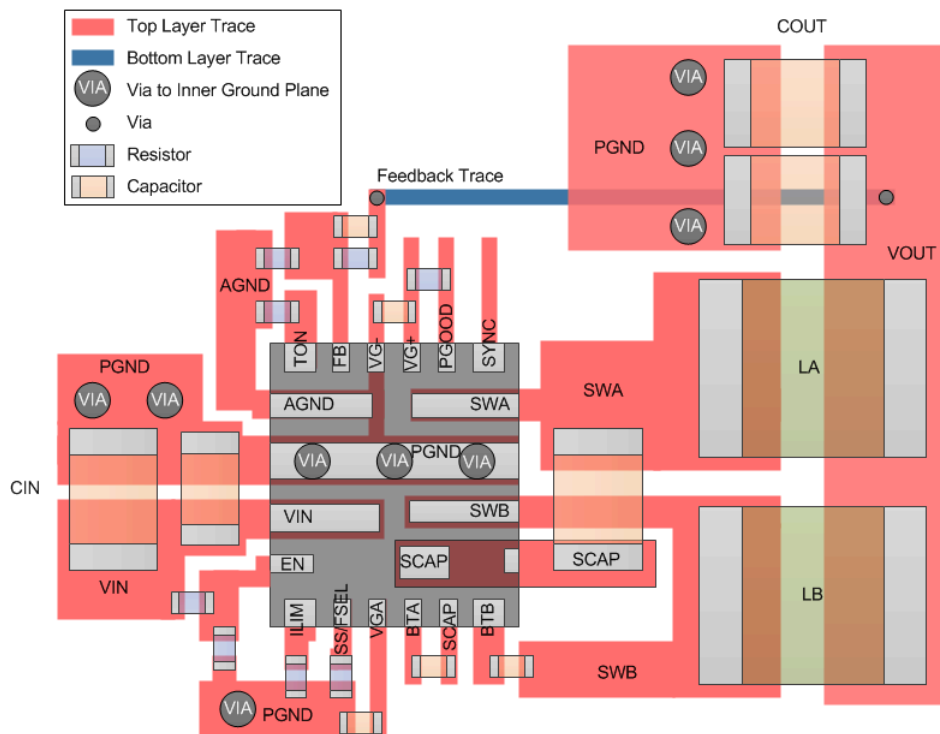
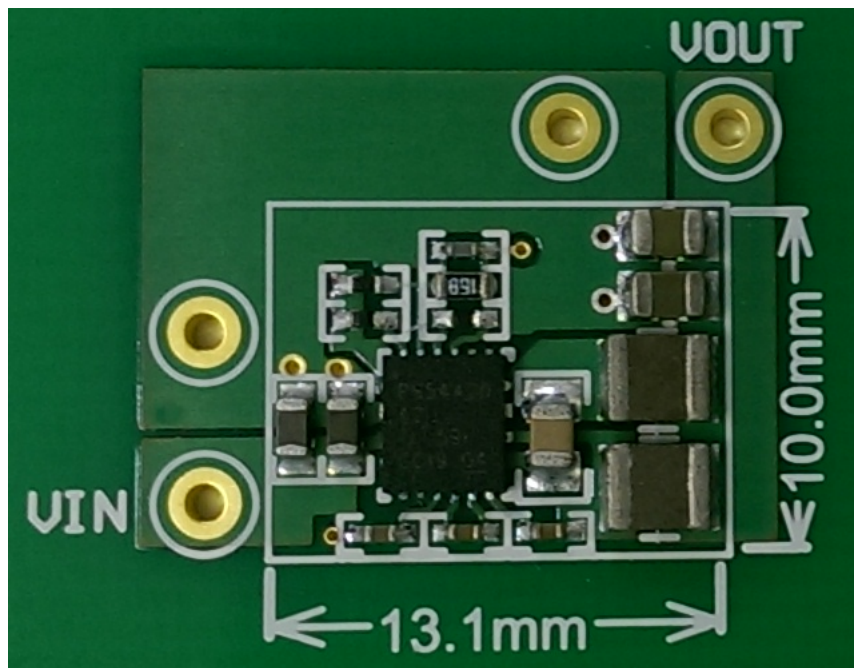

Figure 62. Layout Recommendation
Figure 63. Example Converter Layout
- Layout is a critical portion of good power supply design. See Figure 62 and Figure 63 for a PCB layout example. It may be possible to obtain acceptable performance with alternate PCB layouts, however this layout has been shown to produce good results and is meant as a guideline.
- The FB pin is sensitive to noise. The feedback resistors should be located as close as possible to the IC and routed with minimal lengths of trace. Place the feedback resistor network near the device to minimize the FB trace distance. When operating at 7 MHz or 10 MHz, a resistor (e.g. 10 k Ω) is required in series with the FB pin to reduce noise coupling and filter out high frequency noise as shown in Figure 62.
- The no connect (NC) pin should be connected to the trace connecting the SCAP pin to the series capacitor. This will improve board level reliability.